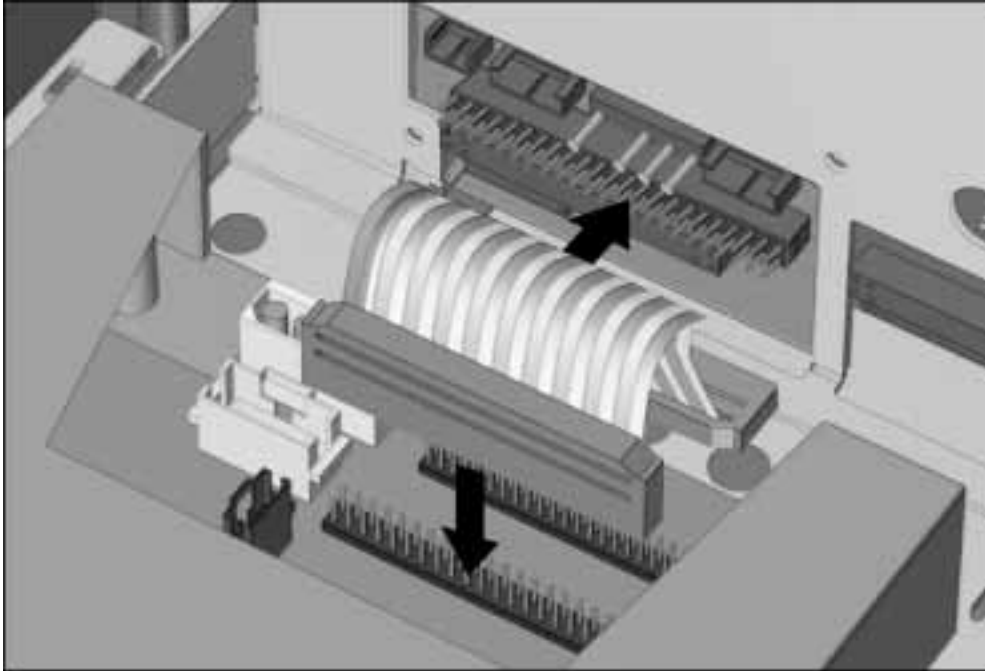

Figure 5-28. Connecting the Hard Drive Cable to the Armada 7000 Half-Height MultiBay Adapter and Backplane Assembly
11. Connect the hard drive cable to its respective connectors on the half-height MultiBay adapter and backplane assembly (Figure 5-28).